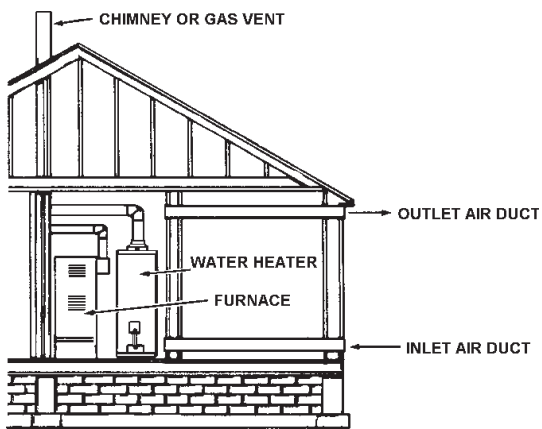

FIGURE 14.
- When communicating with the outdoors through horizontal ducts, each opening shall have a minimum free area of 1 square inch per 2,000 BTU per hour (11 cm2/kW) of total input rating of all equipment in the enclosure, see Figure 14.
- When ducts are used, they shall be of the same cross-sectional area as the free area of the openings to which they connect. The minimum short side dimension of rectangular air ducts shall not be less than 3 inches (76.2 mm), see Figure 14.